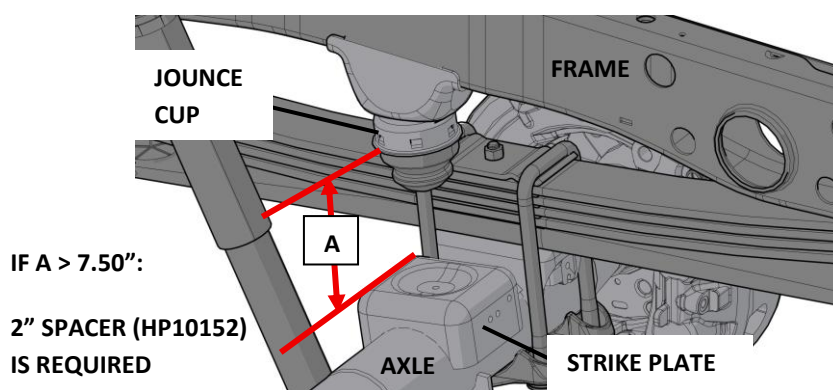

Figure 1. Diagram of GM 2500/3500 Rear Suspension
Note (AT4/Trail Boss): AT4/Trail Boss models may have an extension adapter (Figure 1, Right) on the strike plate. The extension adapter **must be removed** for the installation of the GM 2500/3500 air suspension kit.
2. "A" = The distance from the bottom of the metal jounce cup to the green line (Figure 1, Right) **PLUS 1"**.